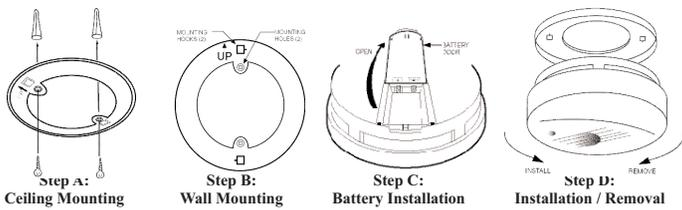

Figure 2: Installation Instructions
- C) See steps A & B in figure 2
- 9.1 To replace the battery remove the alarm from the mounting plate by rotating the alarm in the direction of the "OFF" arrow on the cover. (see Figure 2, Step D).